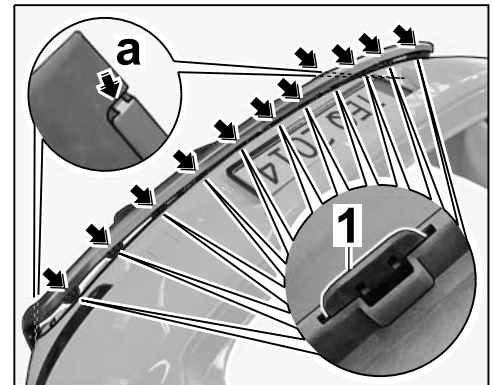

Figure 8
- 3.8.2 Guide the side tabs ⇒ *Figure 8* -**arrow a**- into the rear apron.